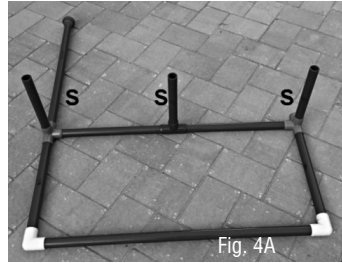

Fig. 4A
4. Construct the water and sand tables (Fig. 4A - 4C).